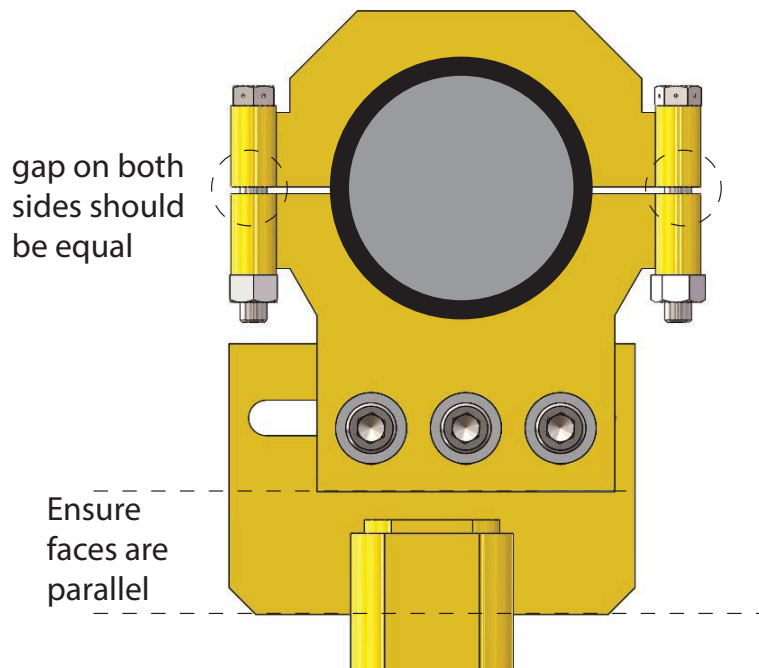

Figure 3: Ensure proper installation
2. To check if the mud line clamp is parallel to the mud line support, measure the distance from the bottom corners of the clamp to the bottom edge of the support mount as shown in Figure 3.
3. Loosely fit the clamp so that it is parallel with the mud line support mount as shown in Figure 3.
4. Ensure the gaps between the clamps are equal on either side with as shown in Figure 3.
5. Ensure the mud line clamp and mud line support are parallel by measuring the distance from the bottom corners of the clamp to the bottom edge of the support mount as shown in Figure 3.
6. If Step 4 and Step 5 are valid, torque the (2) 1/2"-13UNC x 4" fasteners to 99 ft-lbs.
8. Torque the (3) 5/8"-11UNC x 2" fasteners to 198 ft-lbs.
9. Ensure the mud line clamp is still parallel with the mud line support mount as shown in Figure 3.